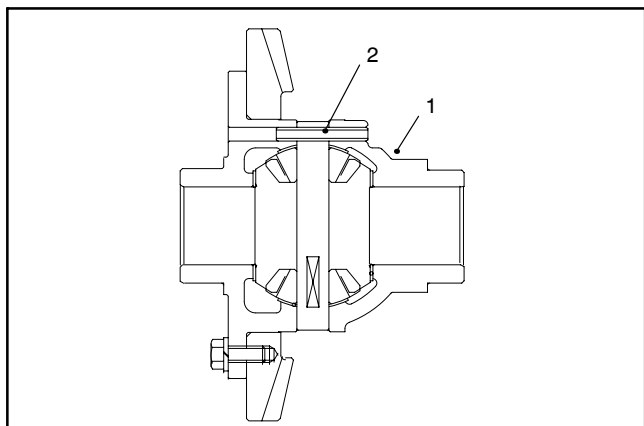

Figure 33
6. Drive the spring pin from the differential case with a punch and hammer. Discard the spring pin (Fig. 33).